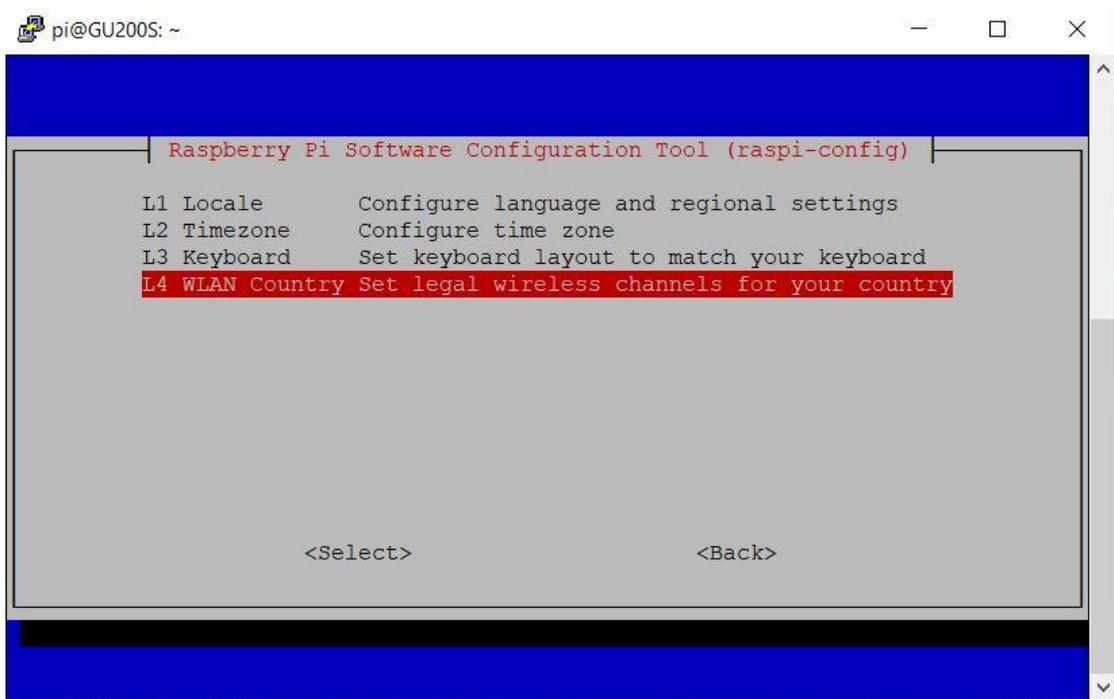

Figure 110 Choose WiFi country
Step 2. Choose item L4 to select WiFi country (Figure 110). Select “OK”.
When the gateway is moved to a new location, time zone can be changed by selecting “L2 Timezone” in Figure 110, and select the corresponding city in user’s time zone. Then use “Tab” key to jump to “OK”, and select “finish” to update the time zone.